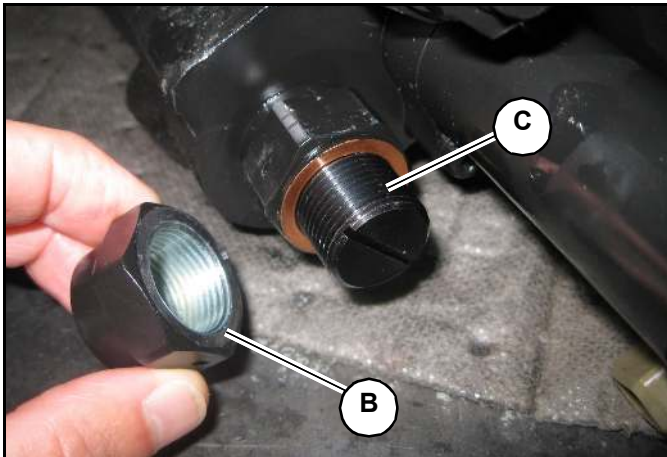

Fig. 155 – Pressure Relief Adjuster
2. Remove cap (B, Fig. 155) on relief valve adjuster screw (C).